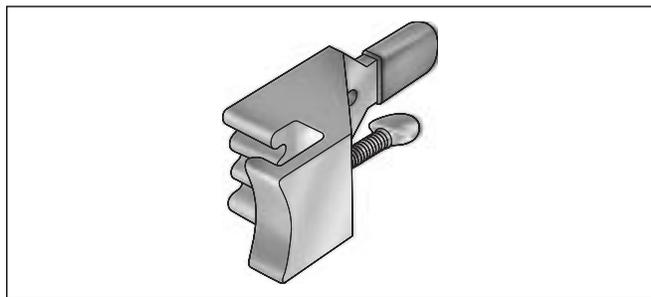

Figure 7-42. Final Drive Sprocket Locking Tool (Part No. HD-41184)
- Obtain FINAL DRIVE SPROCKET LOCKING TOOL (HD-41184) to lock transmission sprocket. See Figure 7-42. Proceed as follows: